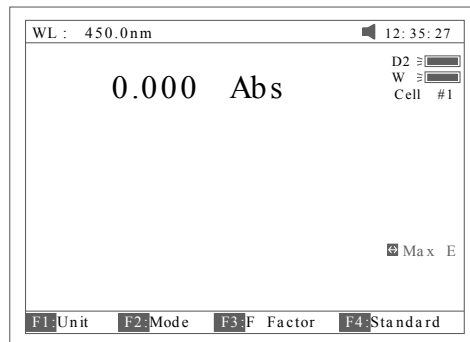

Fig 12
- Press **[ENTER]** to change the wavelength from 656.1nm to 450.0nm, and then blank; after blanking, the screen displays as Fig 12.